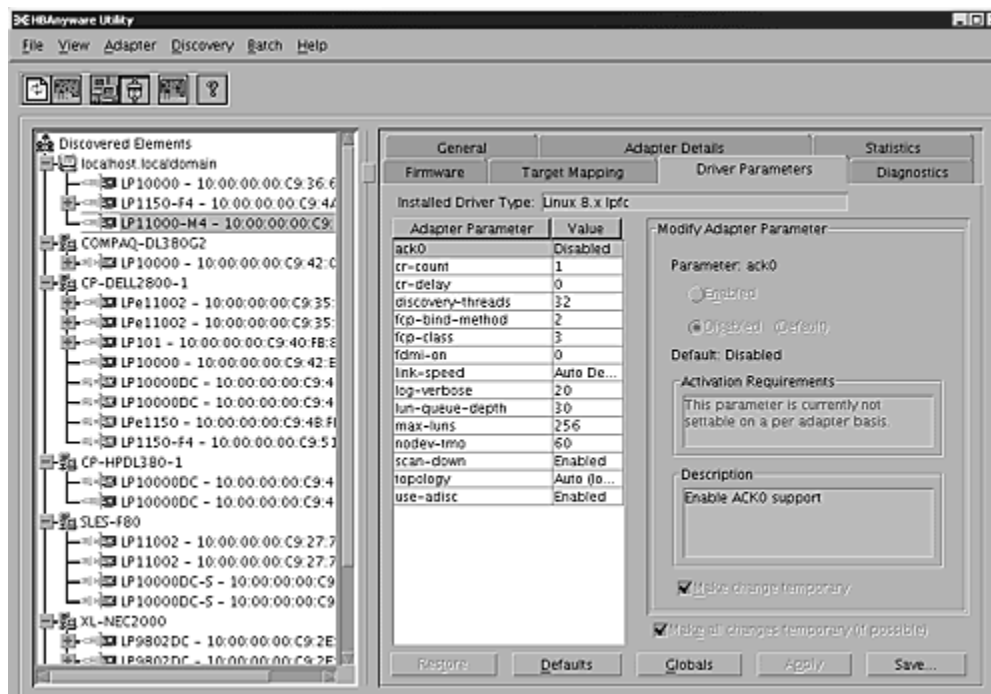

Figure 24: HBAnyware Utility, HBA Selected - Driver Parameters Tab
4. Select the Driver Parameters tab (see Figure 24). The parameter values for the selected HBA are displayed.
3. Select the Driver Parameters tab. Set driver parameters (see Figure 24 on page 61).